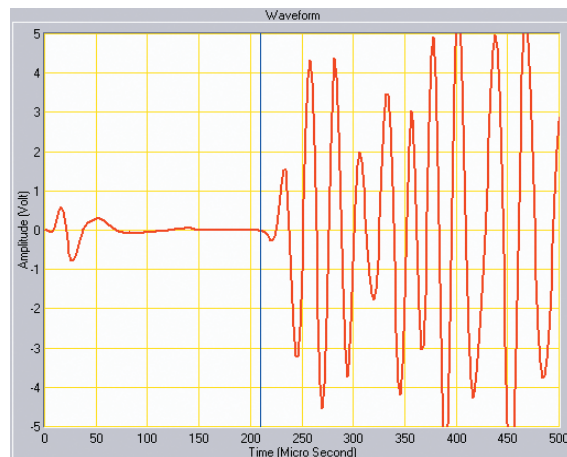

Figure 5. A waveform with a distinct pulse arrival shown by the vertical blue line
**The quality of CSL log data** is limited by the quality of the waveform. CSL data depends upon an accurate pick of the pulse arrival time, which thereby produces an accurate velocity estimation. High quality waveforms are characterized by a flat period with no incoming signal or noise, followed by a distinct spike in amplitude. This spike denotes the pulse arrival at the receiver. An example of a waveform with a distinct pulse arrival is shown in Figure 5.